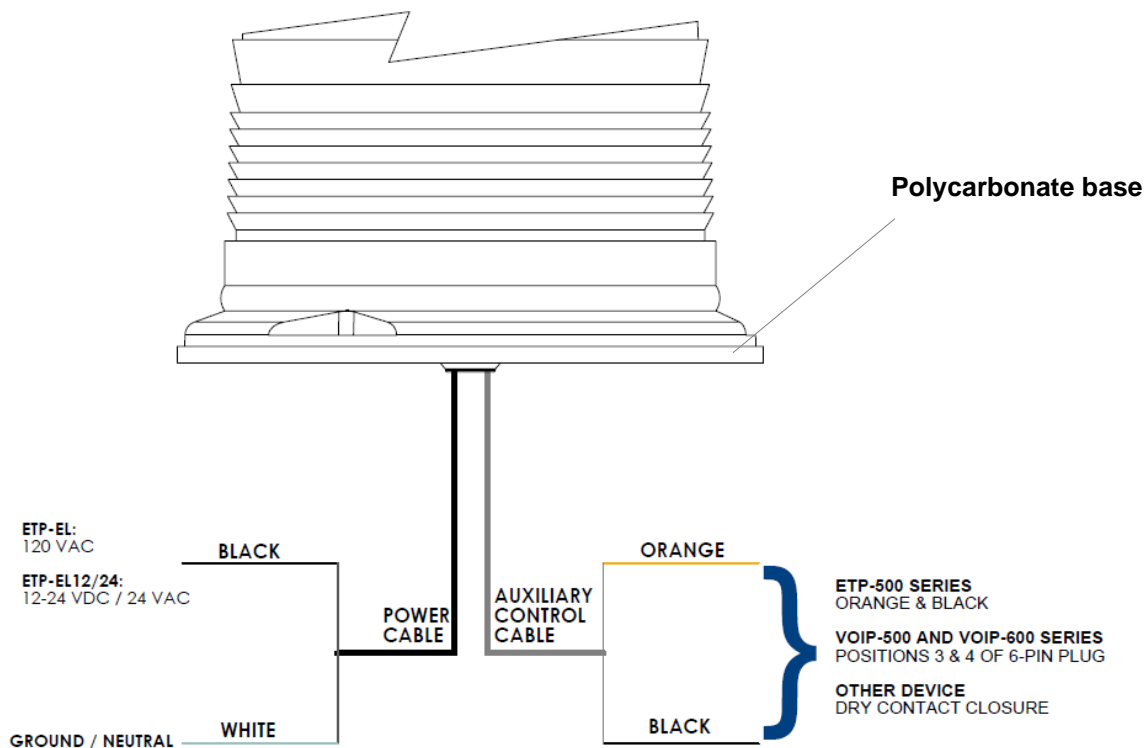

Figure 1: Electrical connections to the ETP-EL and ETP-EL12/24 (polycarbonate base) LED Blue Light
3. Remove the cap lid from the Wall Mount by removing the four #10 spanner security screws located on the side of the unit. **DO NOT** remove the Lexan shield from the unit. Mount the unit on the wall using the two keyholes on the top rear of the unit to the two screws mounted to the wall in **Step (1)**.
5. Install conduit over the bottom hole(s) of the unit if the method in **Step (2)(b)** is being used and bring power line and/or telephone/data line inside the unit.
7. The **ETP-EL** (120VAC) LED Blue Light can be connected to the 120VAC output voltage of the power source. If using the **ETP-EL12/24** LED Blue Light, connect the power cable to either the 12-24VDC or the 24VAC output voltage of the power source (See **Figure 1**).